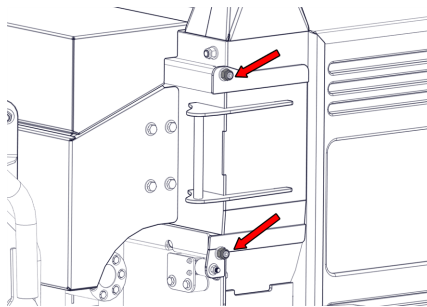

Figure 20 - Rotor Housing Access Hatch
3. Remove the two nuts and washers retaining the rotor housing blade access hatch and remove the hatch (Figure 20).